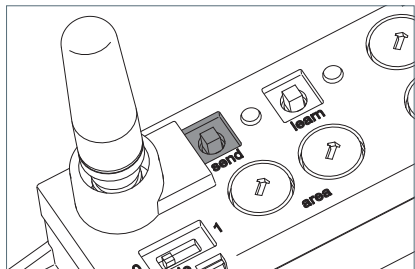

Fig. 27: "send" key
- ▶ Press the "learn" key and keep it depressed for at least five seconds, see Fig. 27.